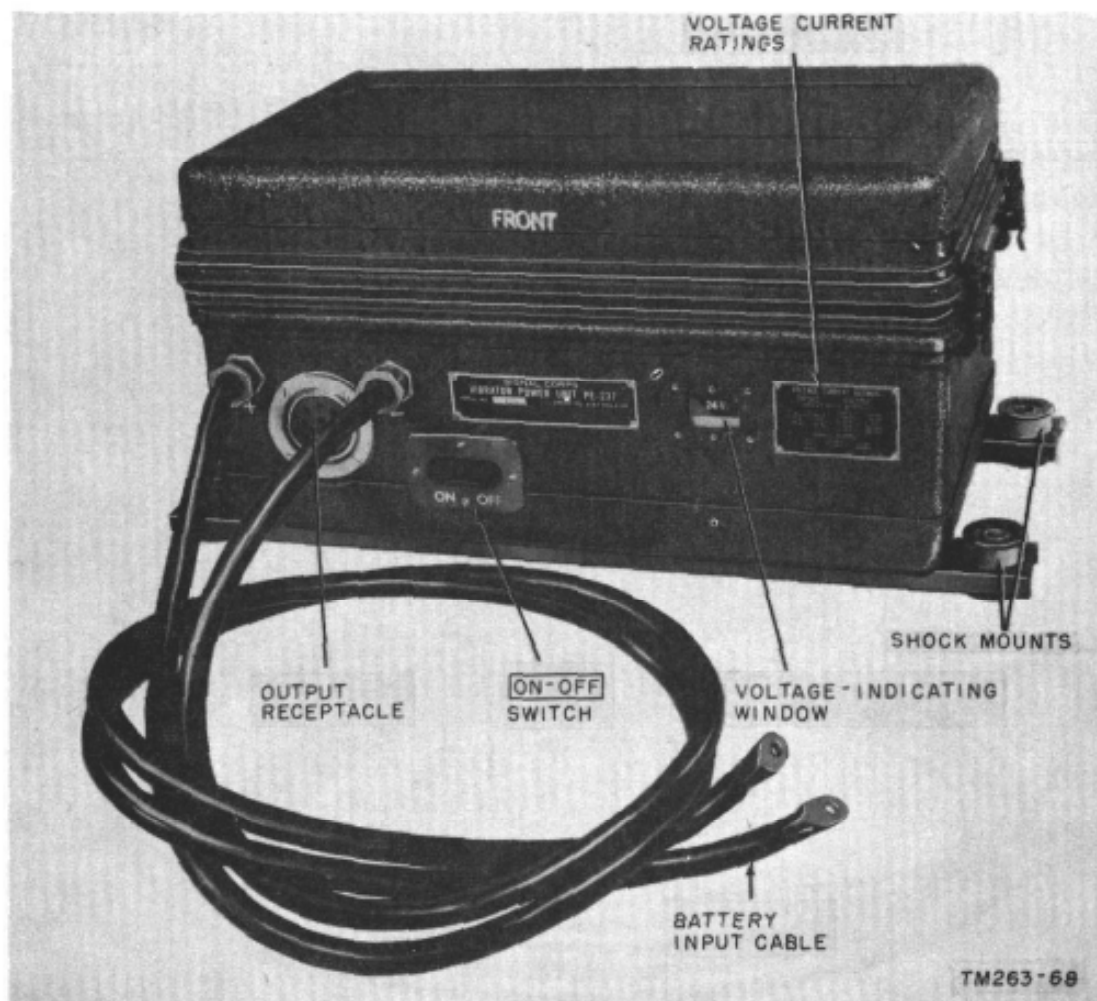

Figure 10. Vibrator Power Supply.
b. FREQ. CONTROL knob (I) and ANTENNA TUNING knob (C) are provided with locks to keep the knobs in place when set for operation. Two charts are provided on the front panel. One has the calibration settings of control (I) already marked. The other one, the CRYSTALS chart, is marked (in pencil) with the six operating frequencies used during crystal operation.
11. Description of Vibrator Power Supply PE-237 (fig. 10)